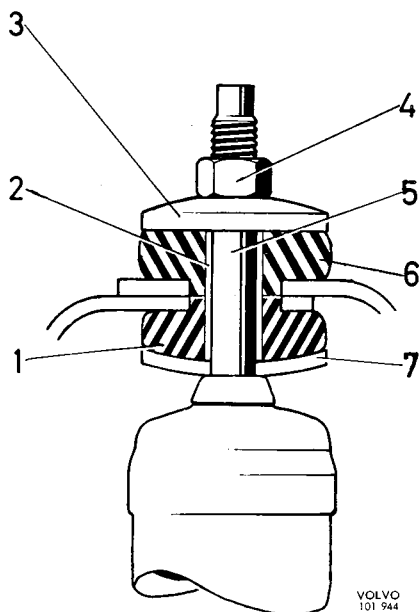

Fig. 7-9. Upper attachment, front shock absorber
The front shock absorber upper attachment (Fig. 7-9) consists of a spindle (5), which with upper bushings (1 and
1. Remove the upper nut (4, Fig. 7-9), the washer (3) and the rubber bushing (6).